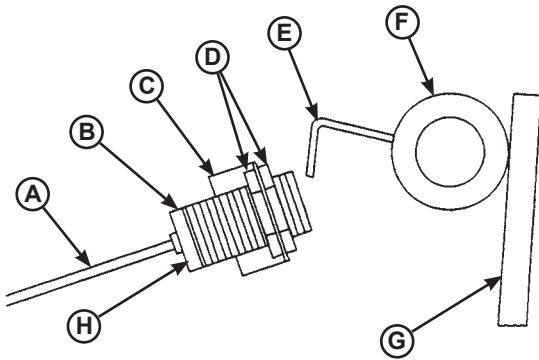

Figure 28
The ARTD uses a proximity switch (B) located under the platform and a piece of angled steel called the target (E) that is attached to the lip hinge tube (F). See Figure 28.